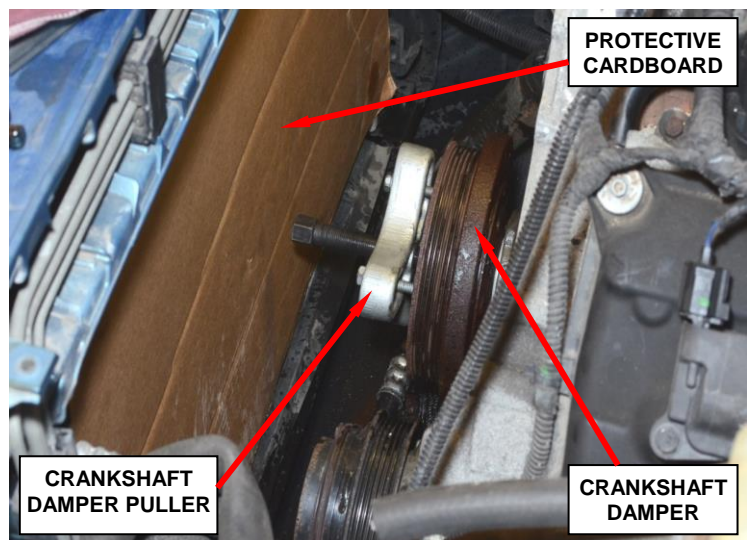

Figure 4 – Crankshaft Damper Puller
20. Install a piece of cardboard or equivalent to the radiator face to protect the radiator during this repair procedure (Figure 4).
22. Using engine crankshaft button (Special Tool 26342) and a crankshaft damper puller, remove the engine crankshaft damper (Figure 4).